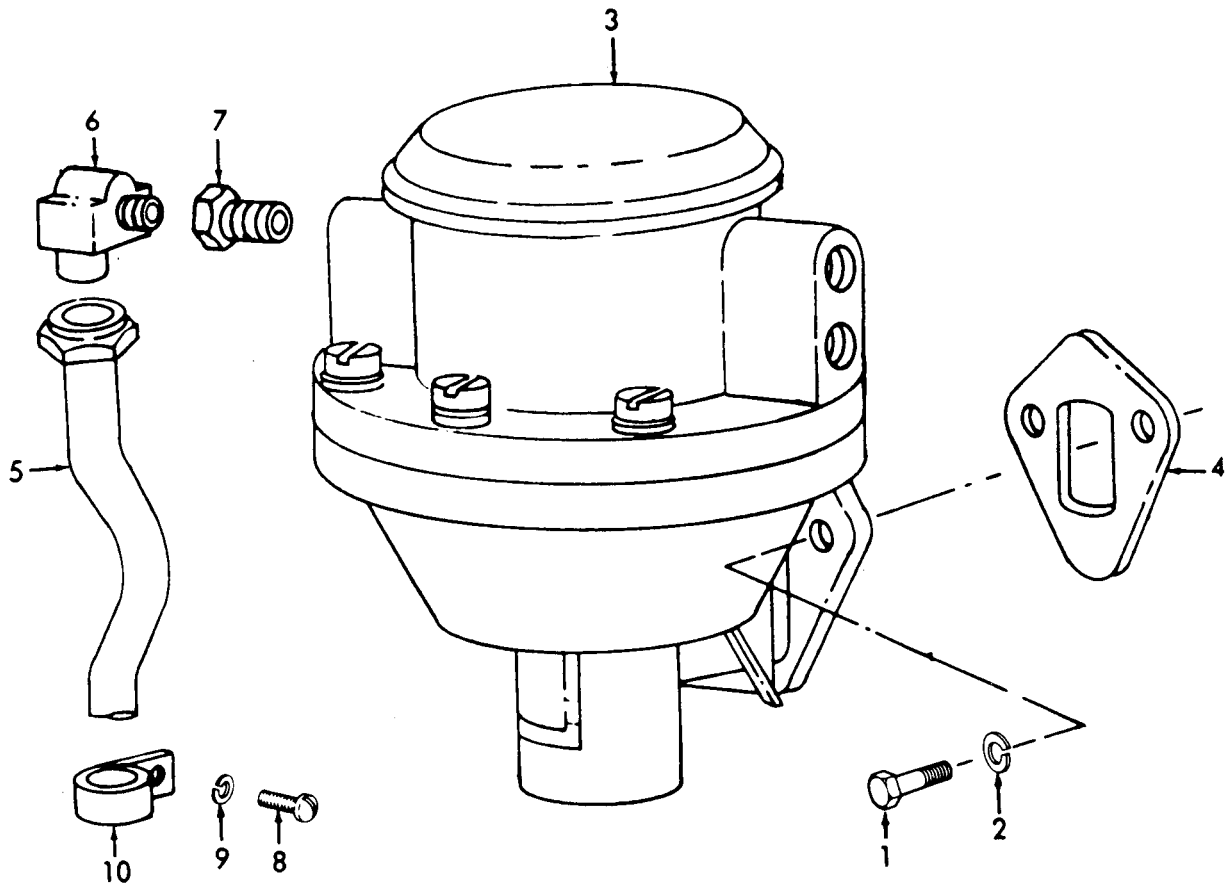

Figure 8-2. Fuel Transfer Pump, Removal and Installation.
(1) Disconnect fuel lines from the fuel transfer pump.
(2) Refer to figure 8-2 and remove the fuel transfer pump.
(1) Refer to figure 8-2 and install the fuel transfer pump.
(2) Connect fuel lines to the fuel transfer pump.